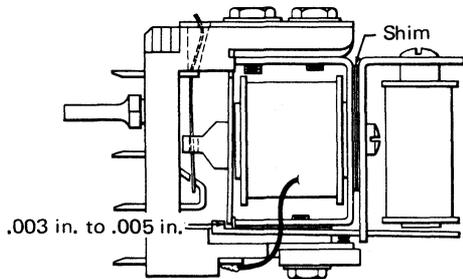

Figure 2-12. Latching Clearance
1. With the relay coil energized, .003-inch to .005-inch latching clearance should exist between the relay armature and the latch at the point of latching. Add or remove shims (part 214459—.003-inch or part 344519—.002-inch) between the relay yoke and the latch magnet yoke as required (Figure 2-12).